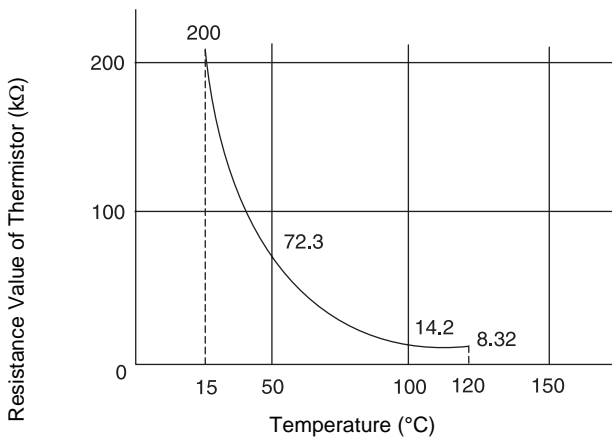

Fig. 3.1 Resistance Characteristics of Thermistor for Discharge Gas Overheating protection
2. If the compressor upper part temperature increases exceeding 127 °C for 10 minutes even if an electronic expansion valve opens, the compressor is stopped, in order to protect the compressor. Thermistor resistance characteristics are shown in Fig. 3.1.